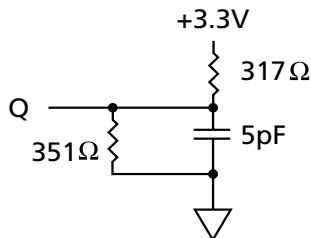
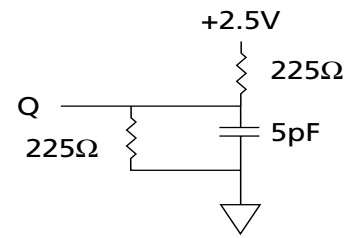

Figure 2
Figure 4
8. This parameter is measured with output loading as shown in Figure 2 for 3.3V I/O and Figure 4 for 2.5V I/O.